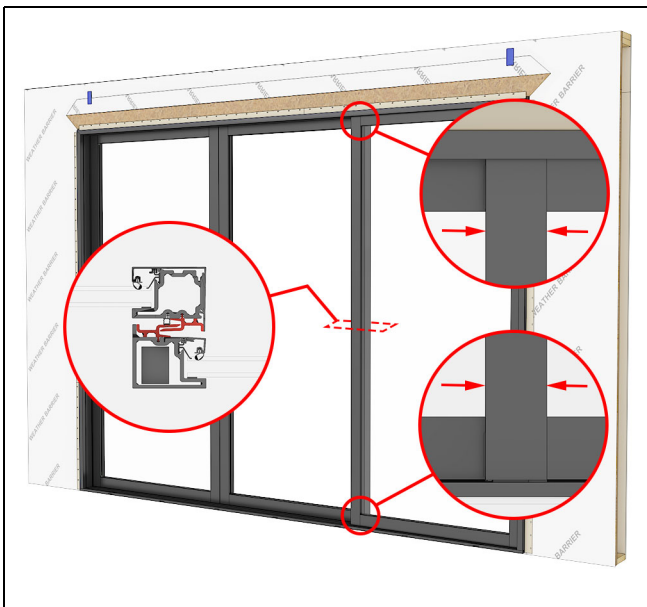

Figure 102
10. Close and lock the operator panel. Check to ensure proper interlock engagement and reveal. Adjust panel rollers as needed. See Figure 102.